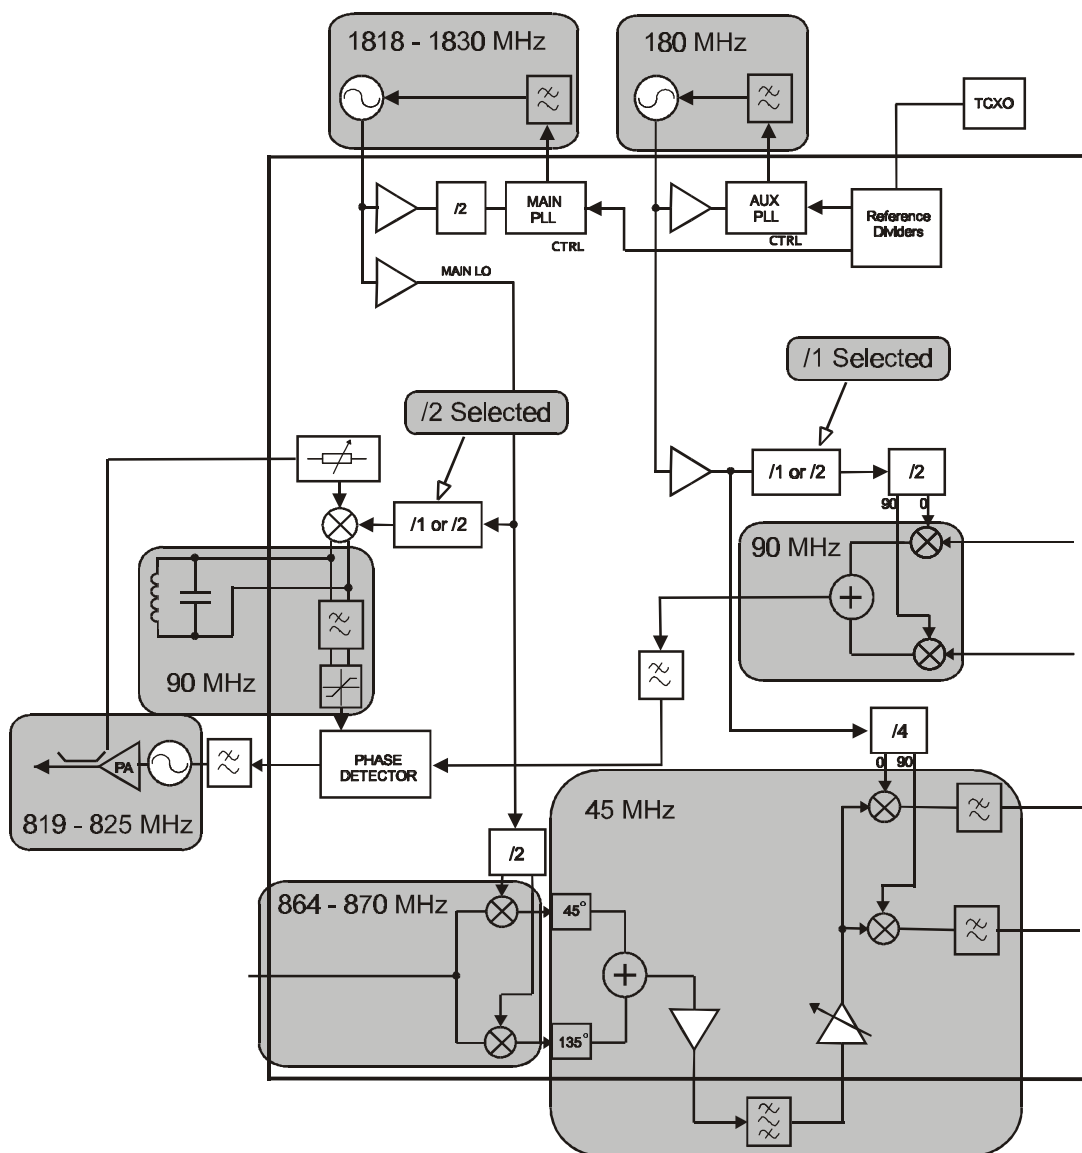

Figure 21 Simplified Block Diagram of CMX990 Showing Example Frequency Plan for 864-870MHz (Rx) / 819-825MHz (Tx) band
The OPLL works by generating the modulation on an intermediate frequency (IF). This can be set on the CMX990 by programming the IF PLL to an appropriate IF. Table 1 shows some possible choices for these values and an example is shown in Figure 21. The CMX990 provides either divide by 2 or divide by 4 from the programmed local oscillator frequency to aid IF selection. The modulation is generated using classic I/Q vector modulation to provide an accurate modulated waveform which can also be inverted to allow high side or low side offset mixing (see section 5.1.4.4). This modulated signal is used as one input to a phase detector. The output of the phase detector drives a VCO operating directly on the desired transmitter frequency, via a suitable loop filter. The VCO output can be fed directly to power amplifier stages. The output of the PA is sampled, a directional coupler is recommended although a simple sample of the PA output can be used. This is fed to a mixer which translates the output frequency to the same IF as the reference modulation. The mixer output should be filtered to remove harmonics which could cause false locking and degrade vector error and is then fed back to the second input of the phase detector via a limiter. The limiter is used to ensure optimum signal level for the phase detector and to remove any AM content in the envelope although this should be negligible. The limiter has a wide input range, this is useful during loop start up as the loop will start locking with very small signals such that by the time output power rises towards operating levels the loop is already locked and the VCO on the correct frequency.